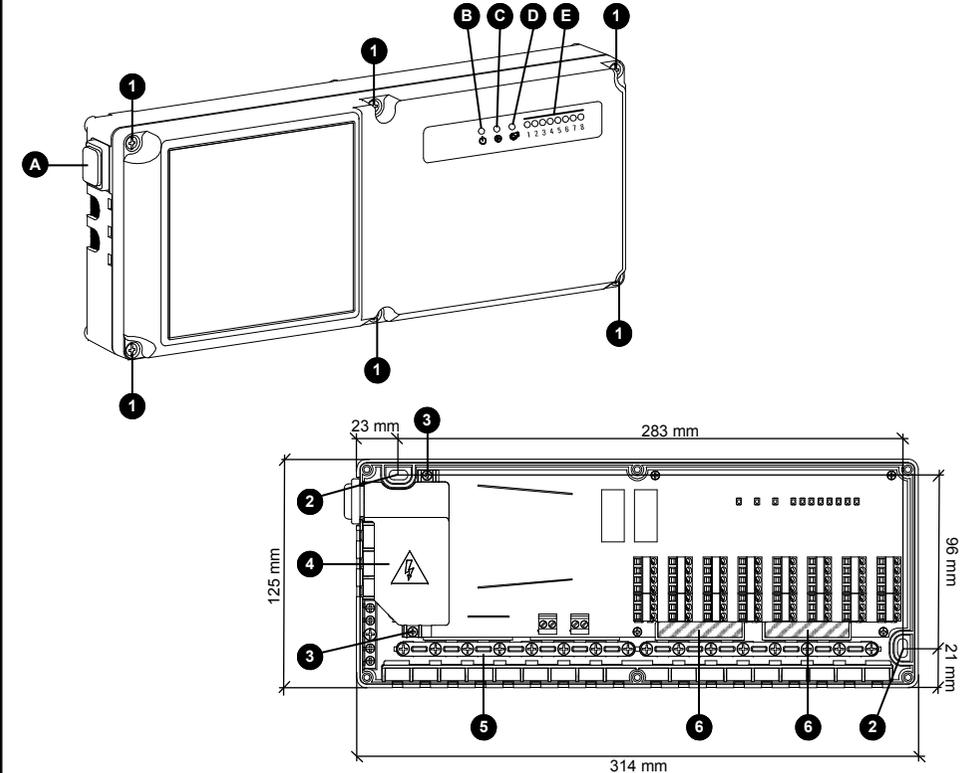

Fig. 1: Internal view and parts.
- Remove the 2 screws labelled as ③ in Fig. 1 then remove the plastic cover labelled as ④ in Fig. 1.
With the help of a screwdriver, remove the plastic knock-outs from the base, see item ⑥, Fig. 1. Cables can then be taken through the backplate to the terminal connections.
Green LED: power supply '☺' (Ⓒ Fig. 1)
Red LED: pump output activation '☹' (Ⓒ Fig. 1)
Red LED: boiler output activation '☹' (Ⓓ Fig. 1)
Actuator outputs state LEDs '1 .. 8' (Ⓔ Fig. 1)
ON / OFF illuminated switch (Ⓐ Fig. 1)
The illuminated switch at the lower left hand side of the wiring centre will isolate the whole of the wiring centre except the parts under the plastic cover, item ④, Fig. 1, to allow access to thermostats and actuators for testing and fault finding during installation.
- Remove the 6 screws labelled as ① in Fig. 1 then remove the front plastic cover.
- Fix the device base to the wall by using the two screw holes labelled ② in Fig. 1.